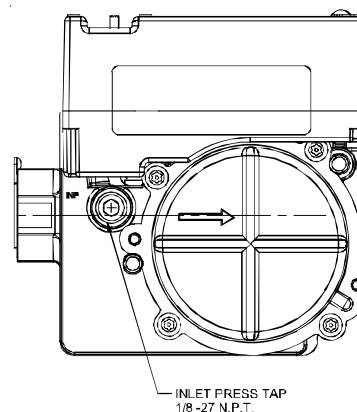

Figure 62C
2. Connect a calibrated water manometer (or appropriate gas pressure gauge) at either the gas valve inlet pressure tap or the gas piping drip leg. See White-Rodgers 36J27 gas valve (Figure 62C) to locate the inlet pressure tap.